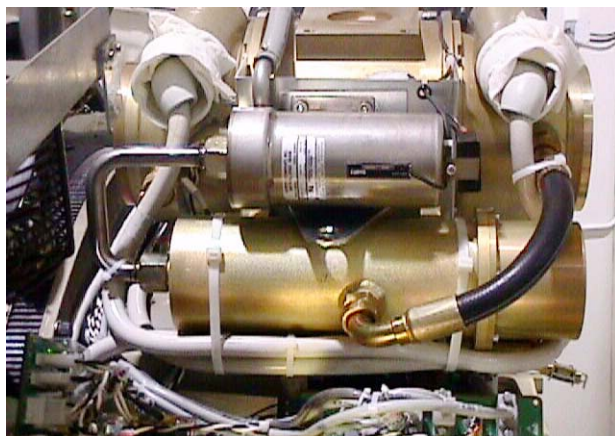

Figure 3-3 HV Cables Properly Routed and Secured
- 13.) Be sure to route the **HV** cable as shown in Figure 3-3.
17.) Secure **HV** Cables using Large Ty-Raps, as shown in Figure 3-3.
- 22.) Install the right gantry front cover bracket. Reference Figure 3-3, on page 27.